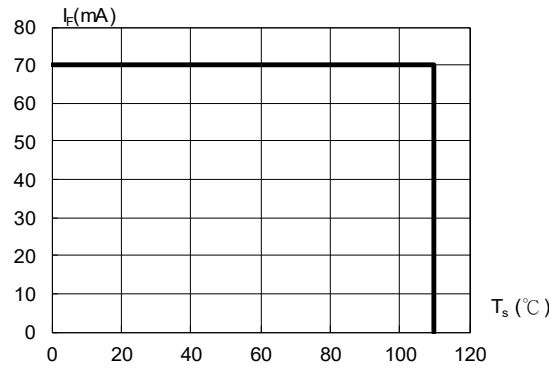

Fig.4 Allowable Forward Current vs. Solder Point Temperature
- Note: 1. Design of heat dissipation should be considered. For the allowable operating current at different operating temperature, please refer to fig 4. page 4.